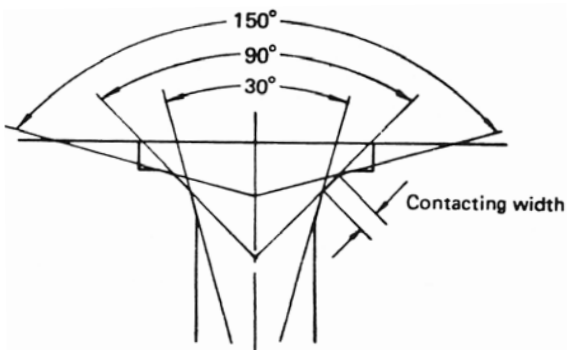

Figure 10
2. Seat cutters of 15° , 45° , and 75° are used to correct the valve seat so that the contacting width becomes equivalent to the standard, see Figure 10. Contacting width of both intake and exhaust valve seats are specified on page 28.